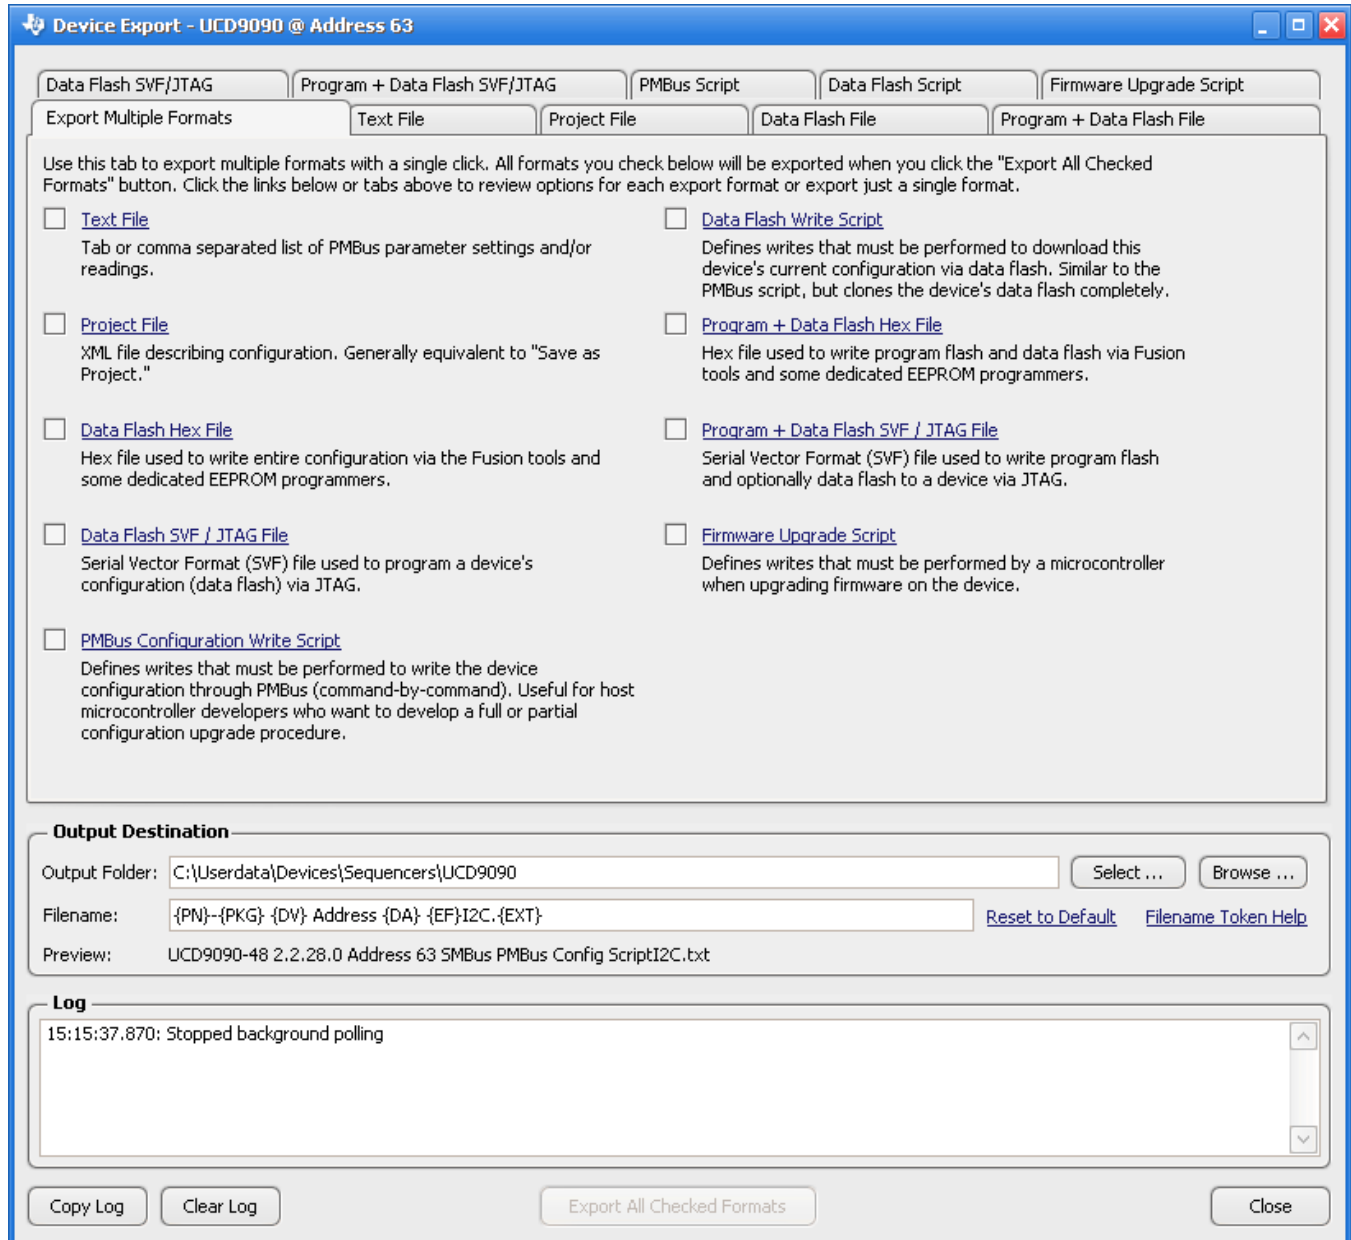

Figure 31. Fusion GUI Device Configuration Export Tool
- Another in-circuit programming option is for the *Fusion GUI* to create a data flash image from the configuration file (Figure 31). The configuration files can be exported in Intel Hex, Serial Vector Format (SVF) and S-record. The image file can be downloaded into the device using I²C or JTAG. The *Fusion GUI* tools can be used on-board if the *Fusion GUI* can gain ownership of the target board I²C bus. It is recommended to use Intel Hex file or data flash script file for production programming because the GPIOs are under